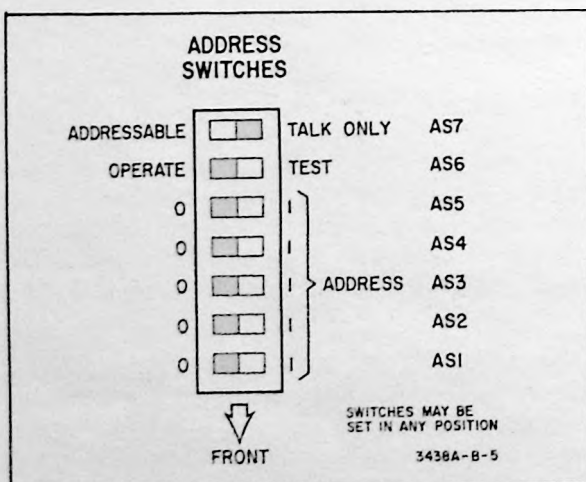

Figure 3-10. Talk Only Switch Settings.
3-33. The Talk Only Mode is used in an HP-IB system without a controller. The Address Switches AS6 and AS7, which are located on the A3 Logic board (remove top cover), must be set as shown in Figure 3-10 for this mode. AS1 through AS5 may be set in any position.
- Set the Multimeter Address Switch to Talk Only/Operate as shown in Figure 3-10.